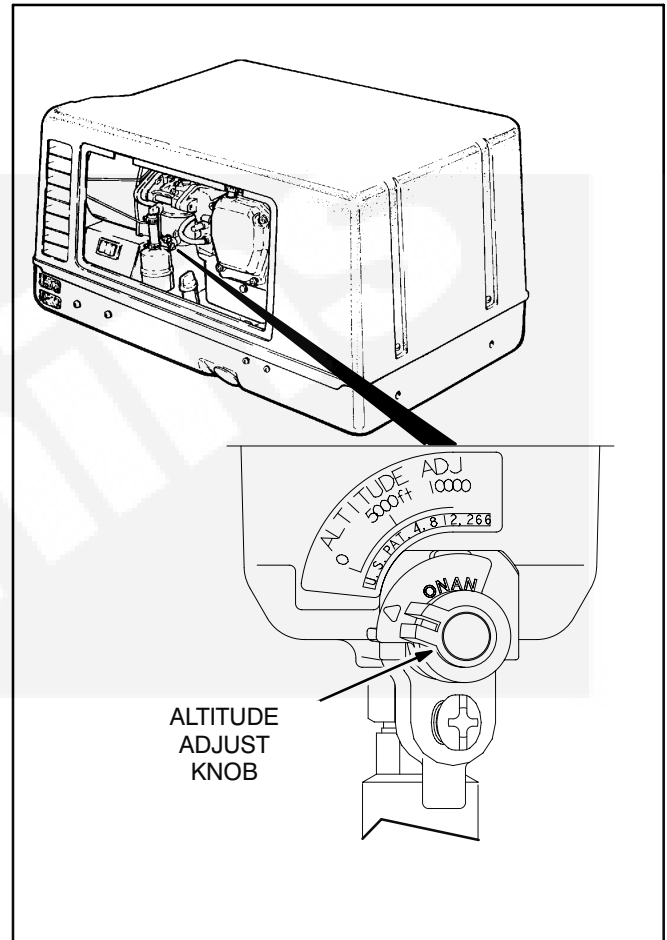

FIGURE 8. ALTITUDE ADJUST KNOB
2. Reset the carburetor (gasoline models only) for altitude (Figure 8).
5. Reset the carburetor (gasoline models only) for altitude (Figure 8).
For best fuel economy and genset operation reset the carburetor for the current altitude (Figure 8). Look at road maps and road signs. For the effect of altitude on maximum power, see LOADING THE GENSET (Page 9).